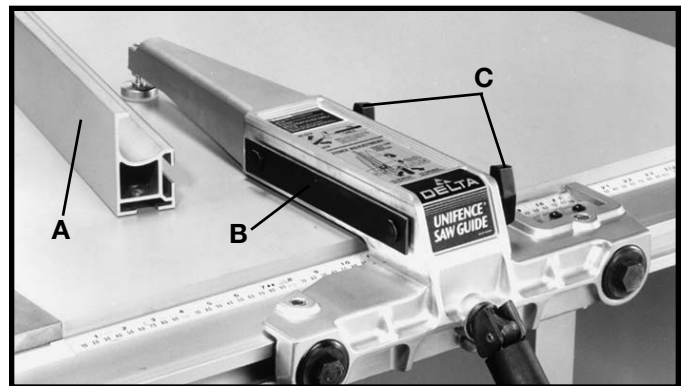
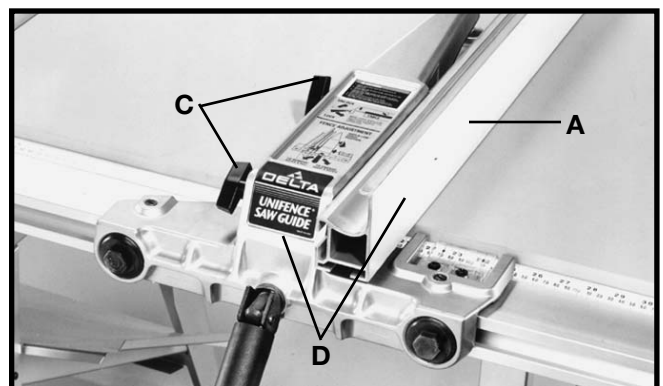

Fig. 82
Fig. 83
In some cases it may be desirable to use the fence on the left side of the saw blade. This is accomplished by repositioning the fence (A) Figures 82 and 83, fence clamp bar (B) and lock knobs (C) so that the fence (A) will be attached to the right side of the fence body, as shown in Fig. 83. The complete fence assembly (D) Fig. 83, can easily be moved to the left side of the saw table.